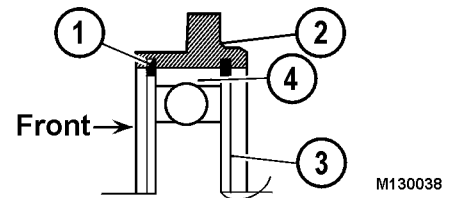

FIGURE 10-27.
*Note: This retaining ring has two flat sides (3, Figure 10-27).*
3. Coat outer race of front bearing (4, Figure 10-27) with thin coat of loctite.